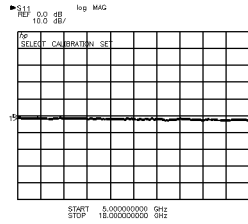

Figure 2-4. Display with Open Circuit Connected
5. Notice the prompt on the display. Connect the shielded open supplied in the calibration kit to port 1 of the test set (the same port where the device under test is connected). Channel 1 displays the uncorrected reflection signal path frequency response of the shielded open circuit. See Figure 2-4.